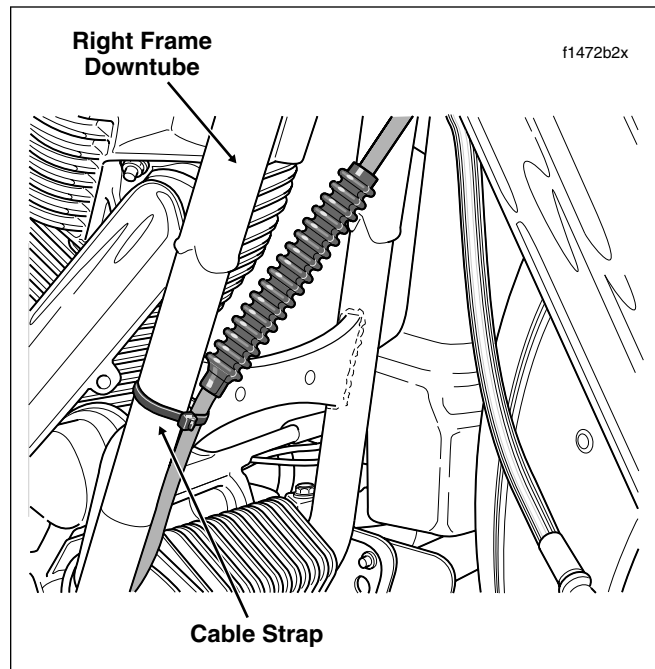

Figure 2-116. Clutch Cable Routing (Right Side View)
13. Cut cable strap in hole of crossbrace to free clutch cable from right frame downtube. See Figure 2-116. Continue as follows:
All Models: Continue downward progression while crossing to right side of motorcycle and then run cable between outboard side of voltage regulator and inboard side of right frame downtube. Threading cable strap through hole in crossbrace, secure clutch cable to downtube as shown in Figure 2-116. Following inboard side of frame downtube, route cable between bottom of cam cover and top of lower frame tube to area of clutch release cover.